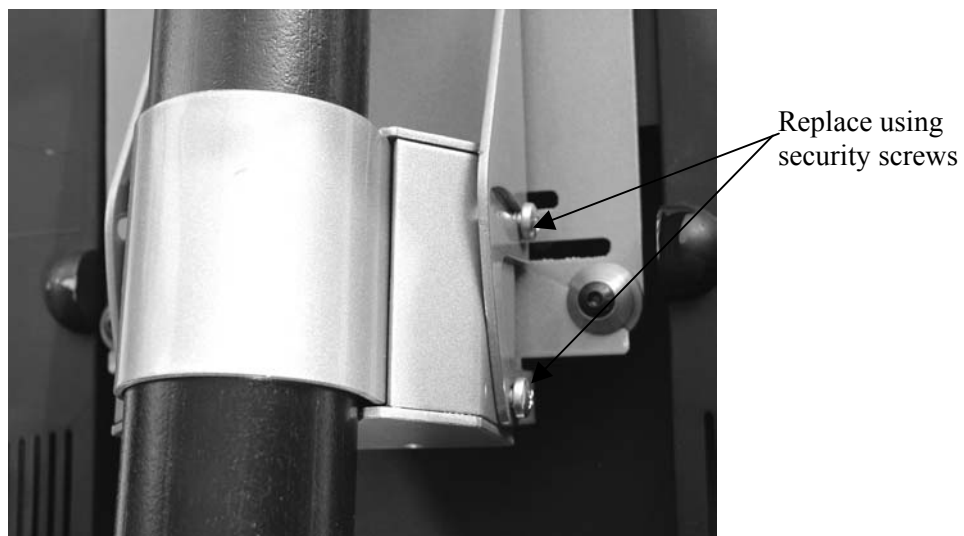

Figure 4
4. For pitch adjustable brackets, replace two tilt adjustment screws on one side of bracket with two 10-24 x .375 button head security screw (see Figure 4).